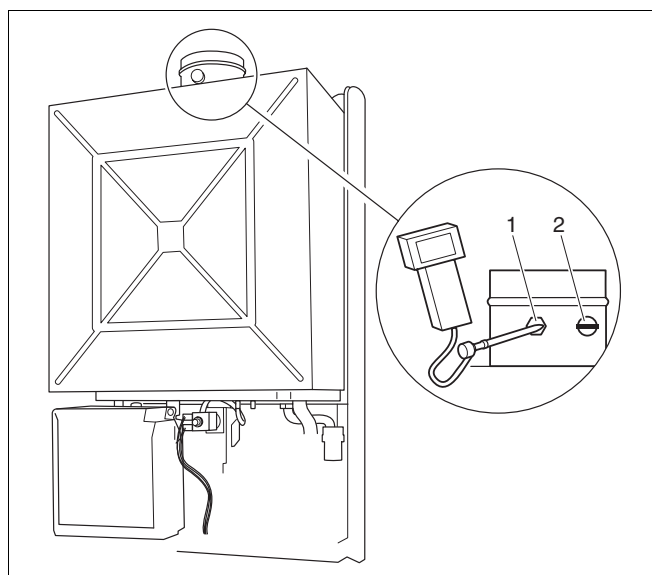

Fig. 24 Measuring points on exhaust conduit
- Unscrew the corresponding sealing closure (fig. 24) on the connection adapter for the combustion-air/flue-gas system and replace it once the measuring operation in question has been carried out.
Key to Fig. 24: